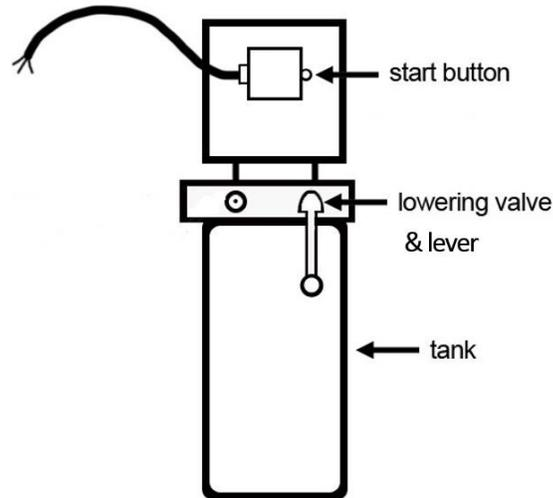

Fig. 8
- A. Push the start button on the motor pump to prime the hydraulic oil into the cylinders on the lift. The lift will rise with lock latches passing over the lock ladders (Fig. 8).
- B. Release the start button to stop the lift from rising. Press down on the lowering valve lever and the lift will lower down and automatically to engage the next lower lock height (Fig. 8).